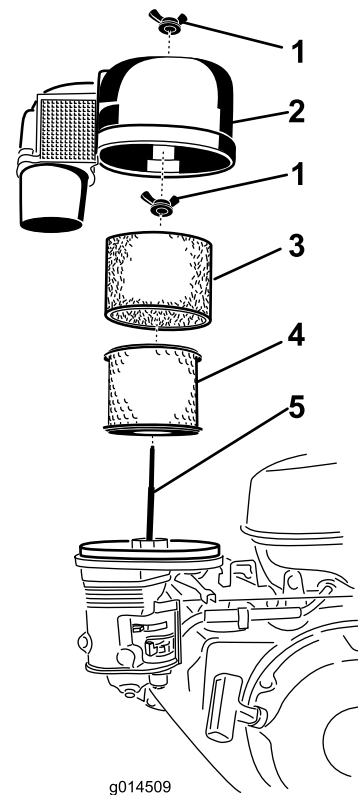

Figure 12
1. Remove the wing nut and lift off the cyclone filter with the air filter cowl (Figure 12).